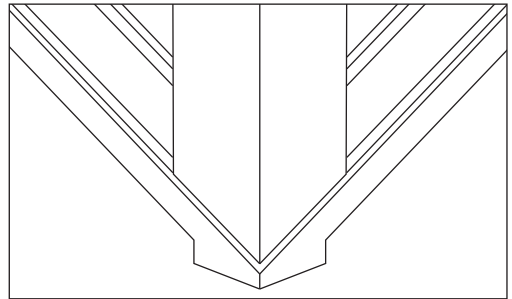

Fig 4 - Lining the valley
- 4 A single strip of roofing underlay, at least the full width (500mm) of the valley boards, should be laid up the centre and directly on top of the boards allowing for an overlap beyond the fascia line where appropriate and which may be trimmed later (Fig 4).